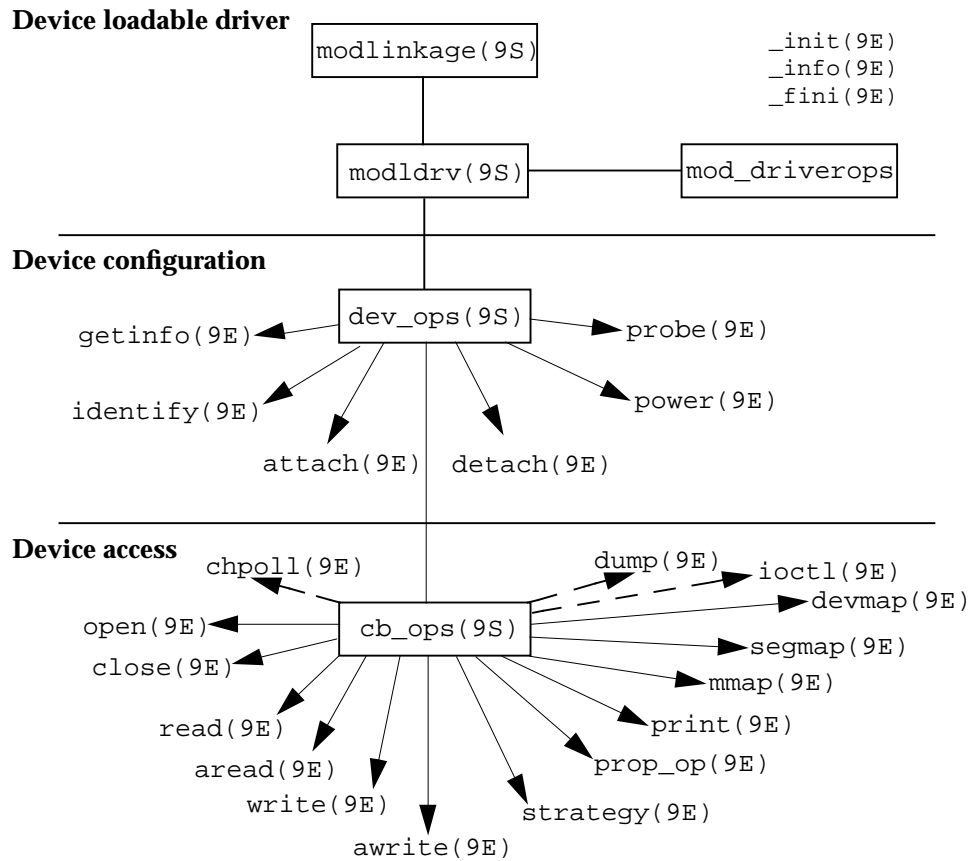

Figure 3-1 Device Driver Roadmap
**Note** - The first two sections in Figure 3-1 are discussed in Chapter 5; the third section is discussed in Chapter 9 and Chapter 10.